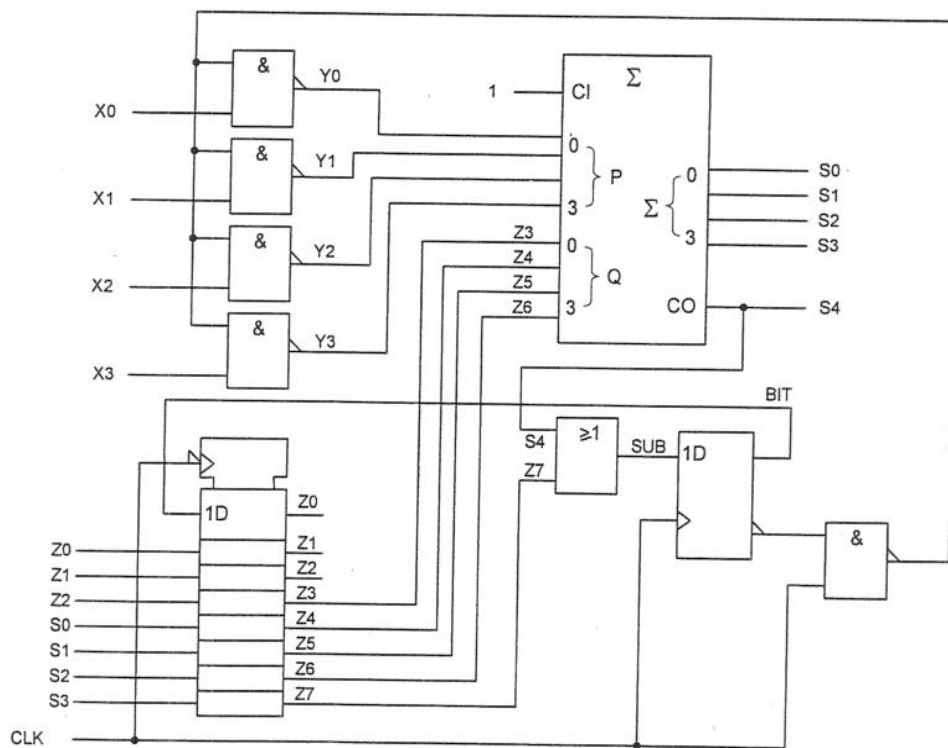

Figure 5.1
5. Figure 5.1 shows part of the circuitry needed to divide an 8 bit unsigned number by a 4 bit unsigned number $X[3:0]$. The 8 bit number is initially loaded into the register $Z[7:0]$ with CLK held low. The division is then accomplished by applying four pulses to CLK .